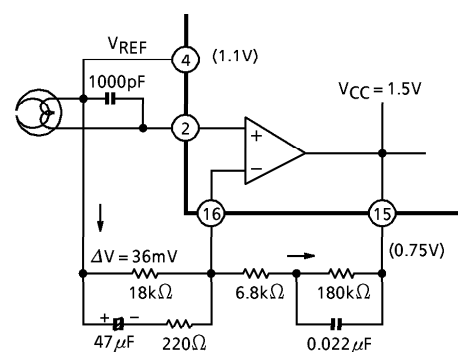

Fig.4 NFB terminal
The resistance of 18k Ω is advisable to be connected between NFB terminal (Pin⑬ and ⑩) and V_{REF} for using this IC. That is because NFB terminal is designed to have the off-set voltage ($\Delta V = 36\text{mV}$) against each terminal (Pin ②, ③, ⑤ and ⑥). Therefore, the DC potential of the output terminals (Pin⑮ and ⑪) can be set at about V_{CC}/2 with the current produced by this off-set potential. (Fig.4)